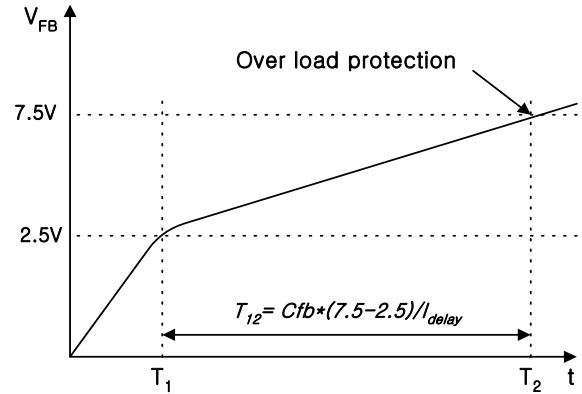

Figure 7. Over Load Protection
**3.1 Over Load Protection (OLP) :** Overload occurs when the load current exceeds a pre-set level due to an unexpected event. In this situation, the protection circuit should be activated in order to protect the SMPS. However, even when the SMPS is in the normal operation, the over load protection circuit can be activated during the load transition. In order to avoid this undesired operation, the over load protection circuit is designed to be activated after a specified time to determine whether it is a transient or overload situation. Because of the pulse-by-pulse current limit capability, the maximum peak current through the Sense FET is limited, and therefore the maximum input power is restricted with a given input voltage. If the output consumes beyond this maximum power, the output voltage ( $V_o$ ) decreases below the set voltage. This reduces the current through the opto-coupler LED, which also reduces the opto-coupler transistor current, thus increasing the feedback voltage ( $V_{fb}$ ). If  $V_{fb}$  exceeds 2.5V, D1 is blocked and the 2uA current source ( $I_{delay}$ ) starts to charge CB slowly up to  $V_{cc}$ . In this condition,  $V_{fb}$  continues increasing until it reaches 7.5V, then the switching operation is terminated as shown in figure 7. The delay time for shutdown is the time required to charge CB from 2.5V to 7.5V with 2uA. In general, a 10 ~ 50 ms delay time is typical for most applications.